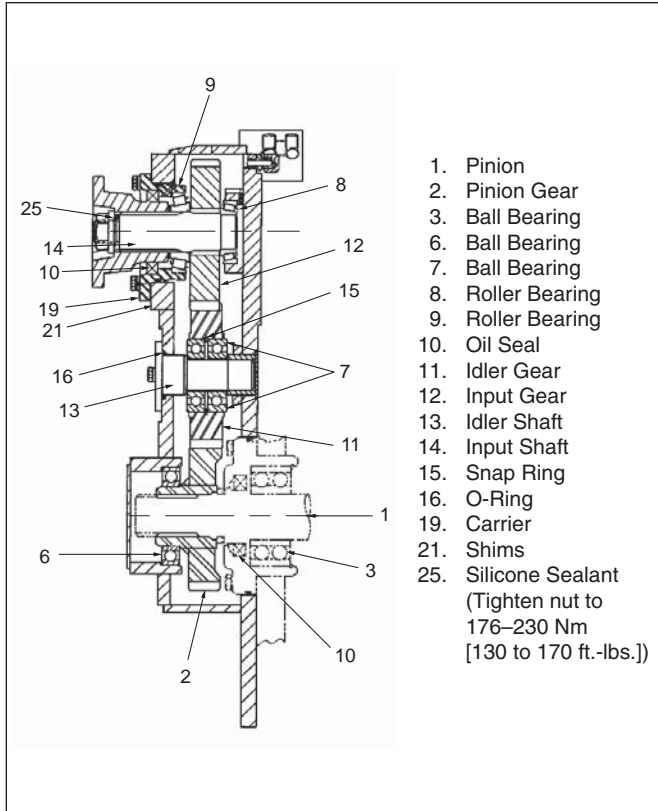

Figure 4-6 Gearbox for Komatsu D83-1 & D85ESS-2
5. If equipped with a drive adapter, remove the drive adapter box first (refer to Figures 4-6 through 4-9), then the bevel pinion gear and carrier. Disassemble and inspect as required.